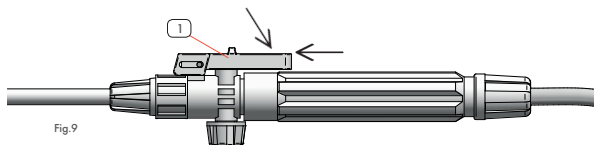

Fig.9
The lock on the handle lever allows for continuous spraying. In order to lock the handle, press the lever (fig. 9/pos. 1) and slide it forward as shown in the figure below. To unlock, slide the lever (fig. 9/pos. 1) in the opposite direction.